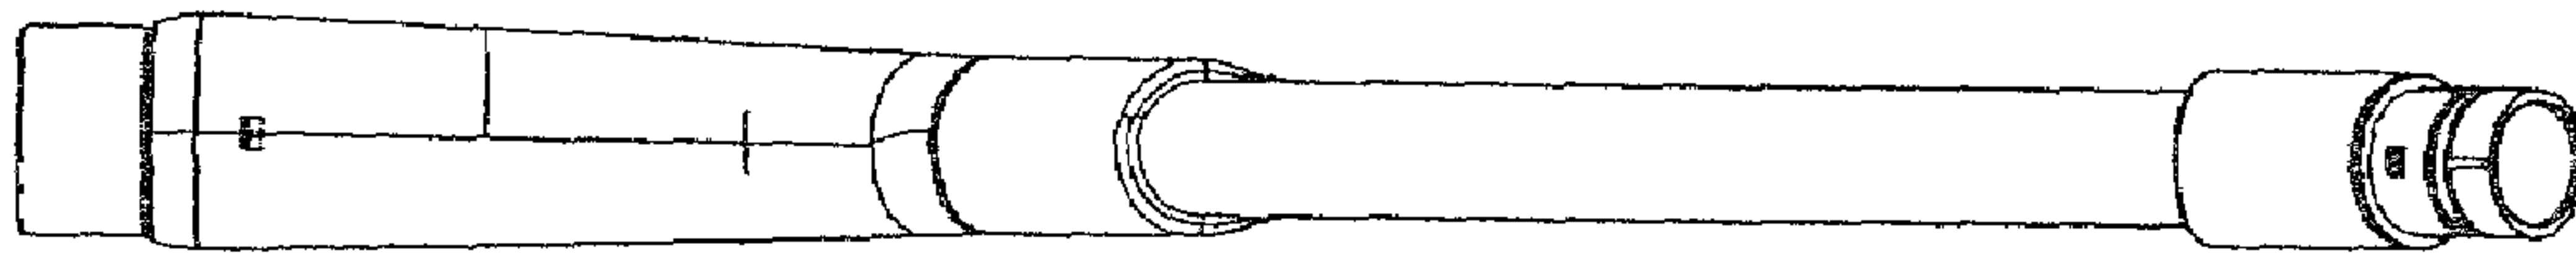

FIG. 6
- FIG. 6 is a bottom view in a closed position;